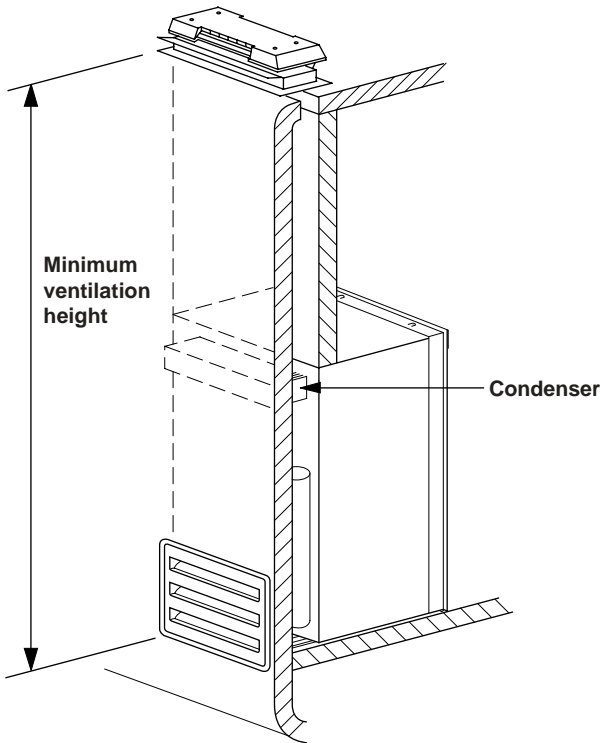

FIG. 9
The method of installation is shown in FIG. 9.
**NOTE:** Clearance "N" is the distance between the bottom of the lower side vent to the roof material. For ventilation height, see table **VENTILATION HEIGHTS**. See Figures 9 and 10.